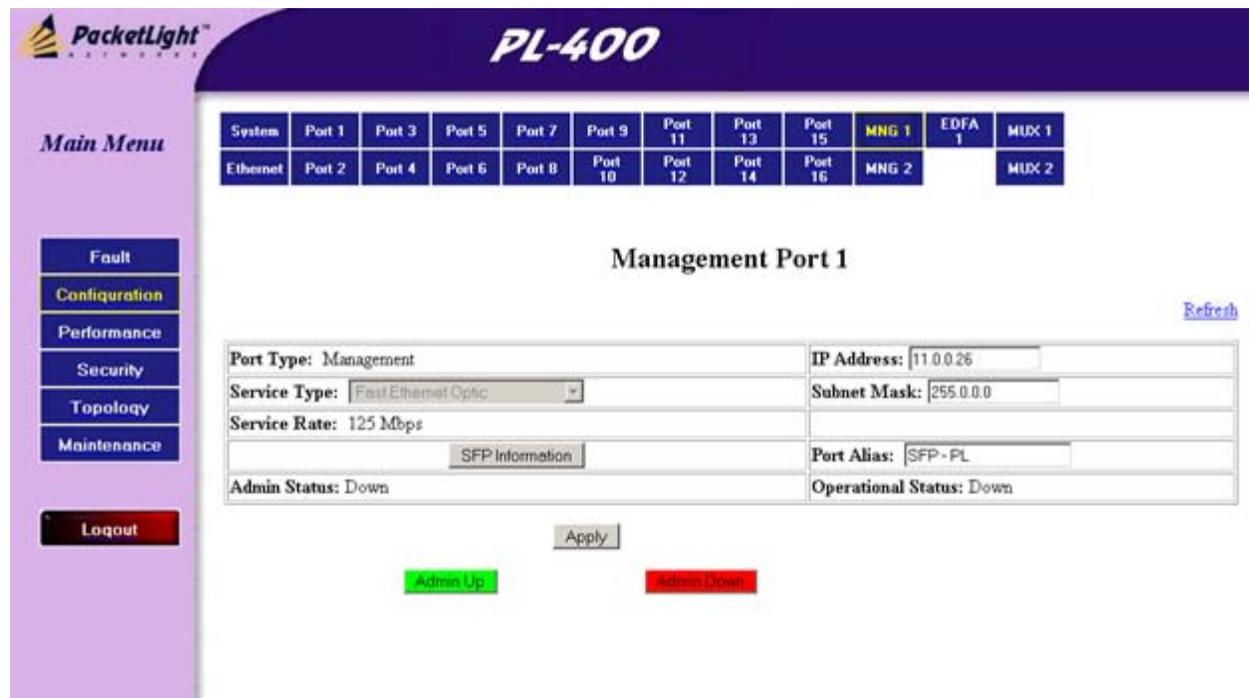

Figure 4-9. Configuration: OSC Port Window
The MNG Configuration window is displayed, see Figure 4-9.
- From the PSC Port Window (see *Figure 4-9*), click <SFP Information>.